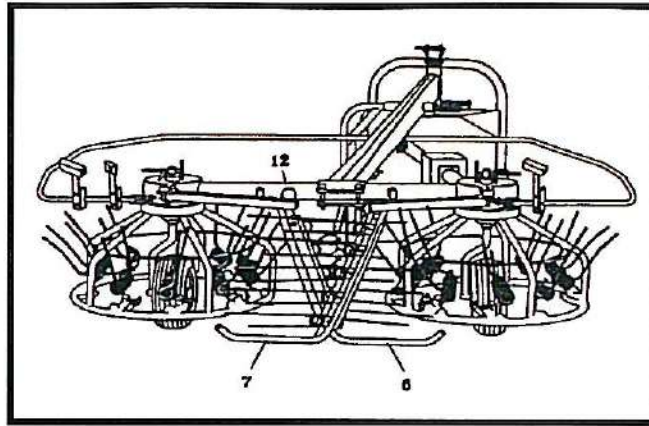

Fig. 4. rake-tedder with screens blocked for transport.
- Fold the screens 6 and 7 to the inside and block them with the stop 12 (Fig. 4.)